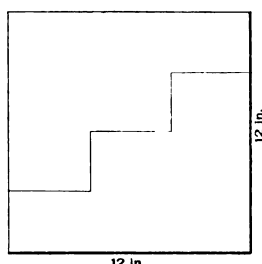
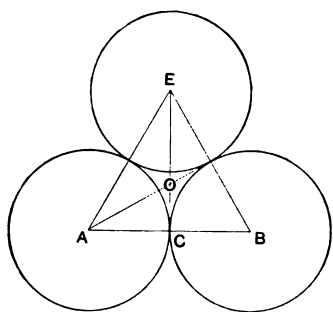

Fig. 2.—The Way it was Cut to Serve the Purpose.
Fig. 1.—Diagram Accompanying Letter from Mr. Cox.
Repairing a Boat. — Fig. 1. — Shape of Board with which the Leak was to be Stopped.
► **Note.**—The question which our correspondent proposes is such a very old one that we feel sure most of the readers are familiar with it from its presentation in these columns long ago. We, however, give place to it at this time for the sake of those who are not in possession of back volumes of the paper. The piece of plank 9 x 16 inches in size is indicated in Fig. 1 of the diagrams, the irregular line indicating the way in which the piece was cut in order to stop the leak in the boat. The two pieces were then placed together in the manner indicated in Fig. 2 of
Roof Plan for Store Building.—Fig. 1.—Truss Intended for Supporting the Greater Portion of the Roof.
story is to be used as a dancing hall. I send inclosed sketches, the first of which, Fig. 1, represents the truss intended for supporting the greater portion of the roof and should be placed about two-thirds the distance from
triangle ABE of Fig. 1 is equilateral; therefore the angle $BAE = 60^\circ$. The area of $ABE = \frac{AB^2 \times \sin 60^\circ}{2} = \frac{10,000 \times 0.866}{2} = 4330$ square feet. The center piece = area ABE less area of half a circle with diameter AB = area $ABE - \left(\frac{AB^2}{2} \times 0.7854\right) = 4330 - 3927 = 403$ square feet.